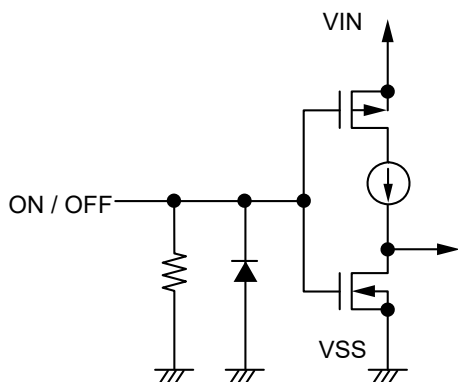
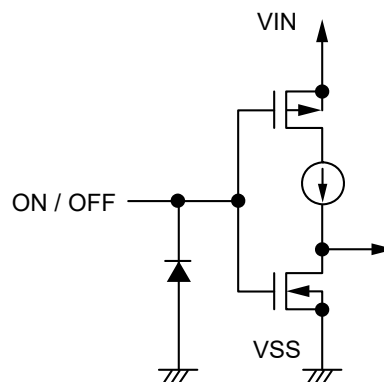

Figure 29 S-13A1 Series A / C type
Figure 30 S-13A1 Series B / D type
When the ON / OFF pin is set to OFF level, the entire internal circuit stops operating, and the built-in P-channel MOS FET output transistor between the VIN pin and the VOUT pin is turned off, reducing current consumption significantly. Note that the current consumption increases when a voltage of 0.3 V to $V_{IN} - 0.3$ V is applied to the ON / OFF pin. The ON / OFF pin is configured as shown in **Figure 29** and **Figure 30**.
*1. Note that the IC's current consumption increases as much as current flows into the pull-down resistor of 2.5 M Ω typ. when the ON / OFF pin is connected to the VIN pin and the S-13A1 Series A / C type is operating (refer to **Figure 29**).